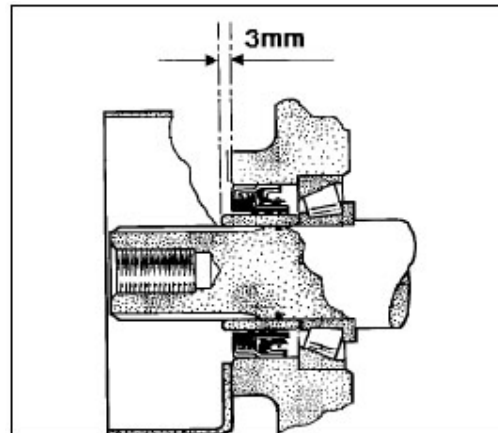

Fig 24
18. The correct position of the seal is 0.118 inch (3 mm) behind the front face of the sleeve (See illustration in Fig 24 ).